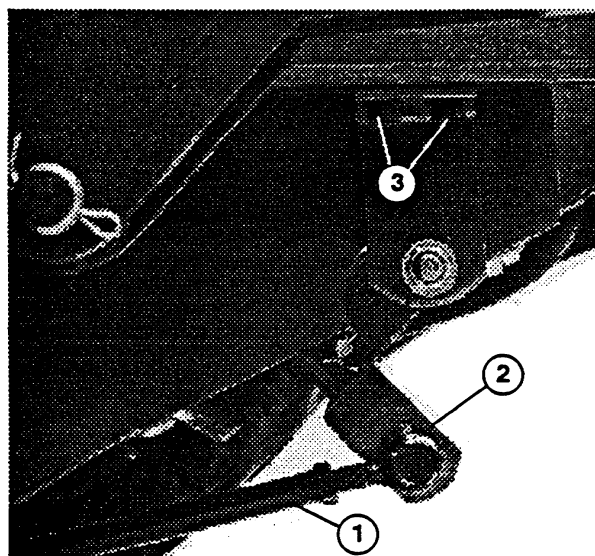

Figure 1
1. Remove nut securing front end of pump control rod to traction pedal pivot bracket (Fig. 1).
2. Remove (2) self tapping screws securing top of traction pedal pivot bracket to frame (Fig. 1). Remove traction pedal assembly.